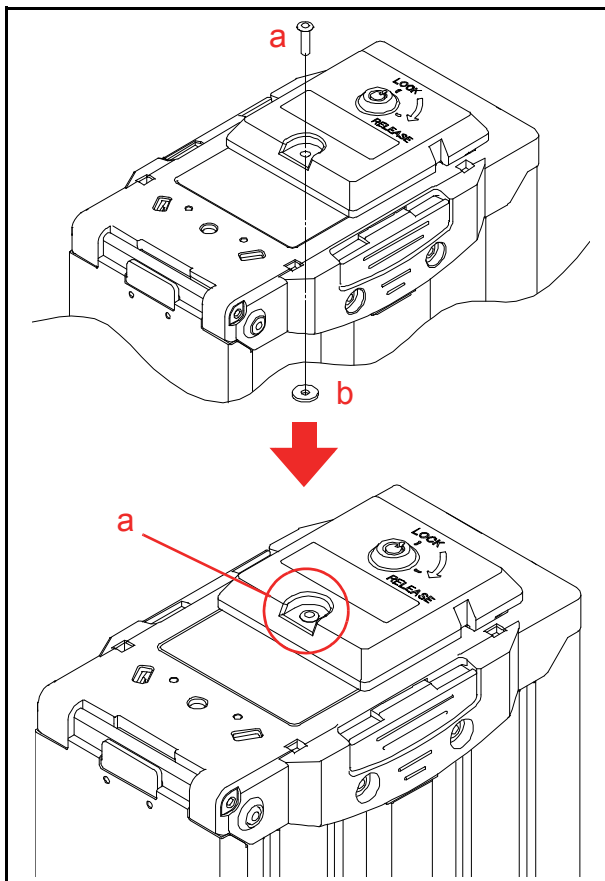

Figure 16 Frame Lock Installation 5
- Retain the Frame Lock assembly to the Cash Box by the single (1) Blind Revet (Figure 16 a) with the $\phi 10$ Washer (Figure 16 b).